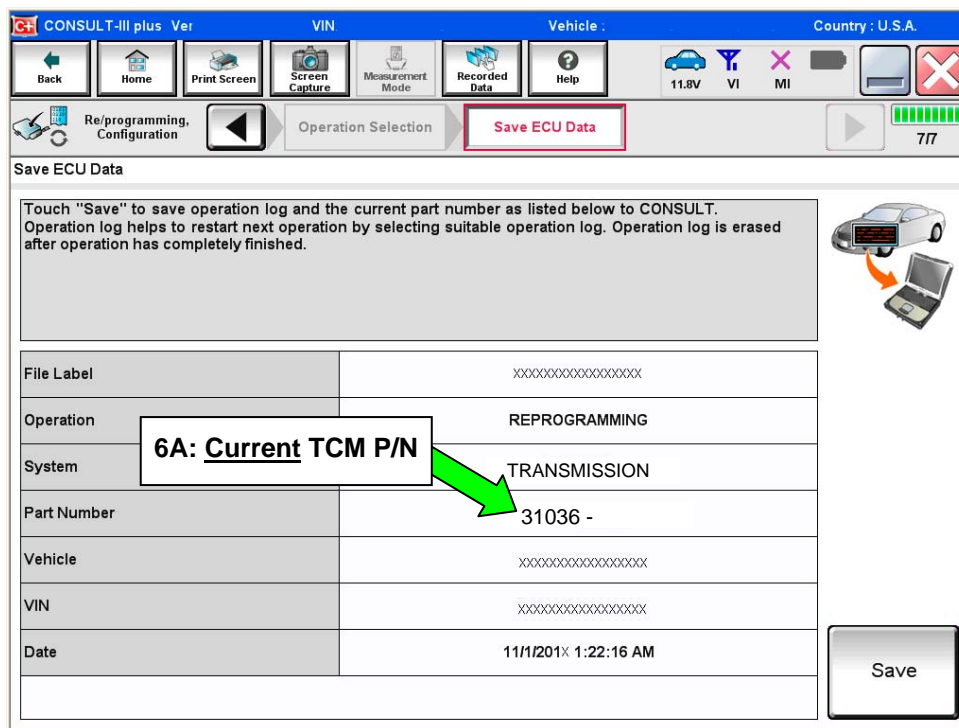

Figure 14
5. Follow the on-screen instructions and navigate C-III plus to the screen shown in Figure 14 on the next page.
6. When you get to the screen shown in Figure 14, confirm this bulletin applies as follows.